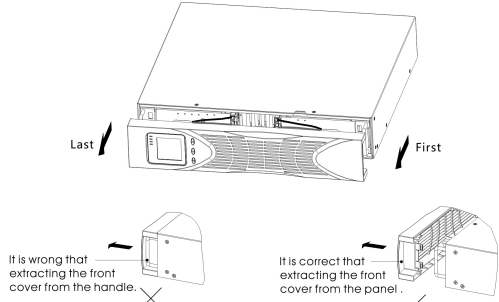

Figure1 Removing the EBP Front Cover
1. Remove the front cover of each EBP (see Figure 1).
Press the panel side with LCD display, hold the other side and quickly extract it, then extract the other side with display. (see Fig.1)